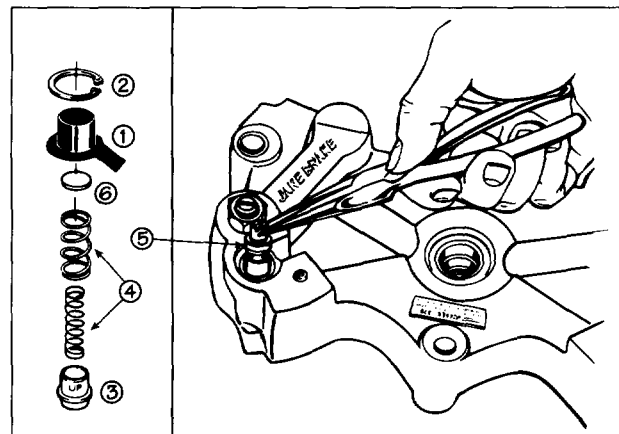
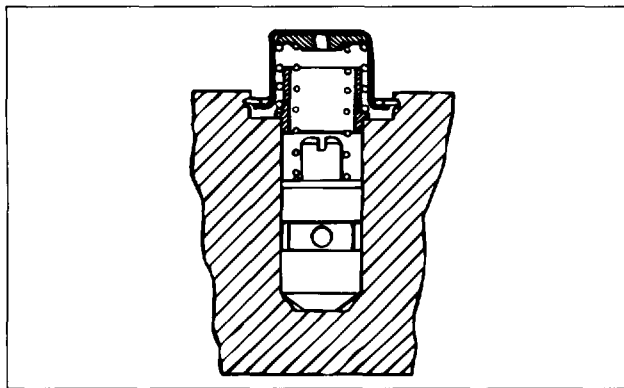

FIG. 4
FIG. 5
2. Slowly remove the cover until spring pressure ceases, then remove the two control valve springs (see 4, Fig. 4), insert (6) and collar (3).
3. Using needle-nose pliers, reach into the bore and grasp the stem of the control valve (5). Remove the control valve.
**BE SURE THE CONTROL VALVE COLLAR IS INSTALLED WITH THE LONGER SLEEVE AREA UP (SEE FIG. 5). IF THE COLLAR IS INSTALLED UPSIDE DOWN, ENGINE DAMAGE MAY RESULT.**